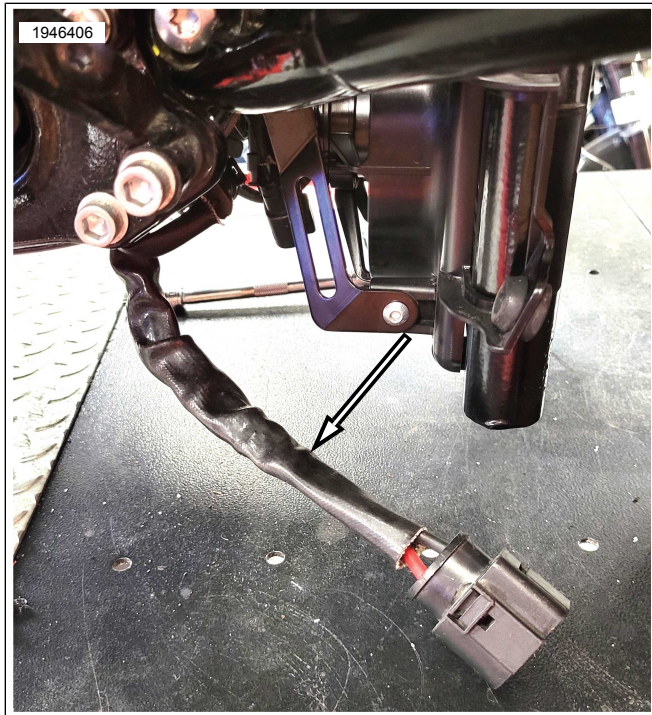

Figure 5. Voltage Connector [77]
2. See Figure 5. Pull voltage regulator connector [77] down below frame.